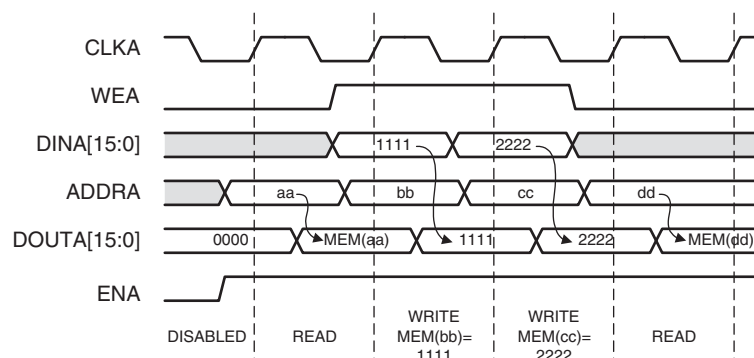

Figure 3-9: Write First Mode Example
- Write First Mode:** In WRITE_FIRST mode, the input data is simultaneously written into memory and driven on the data output, as shown in Figure 3-9. This transparent mode offers the flexibility of using the data output bus during a Write operation on the same port.